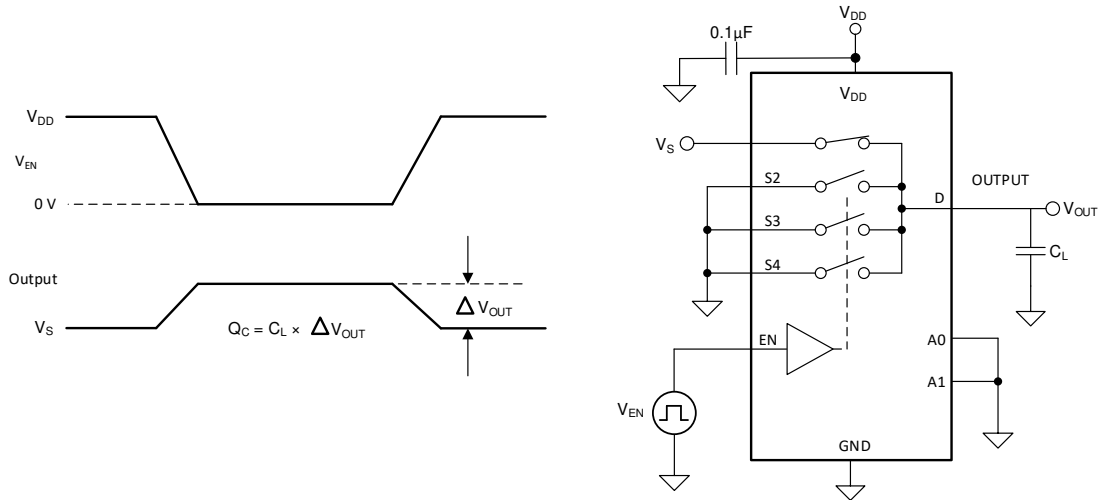

Figure 13. Charge-Injection Measurement Setup
The TMUX1204 has a transmission-gate topology. Any mismatch in capacitance between the NMOS and PMOS transistors results in a charge injected into the drain or source during the falling or rising edge of the gate signal. The amount of charge injected into the source or drain of the device is known as charge injection, and is denoted by the symbol  $Q_C$ . Figure 13 shows the setup used to measure charge injection from source ( $S_x$ ) to drain (D).